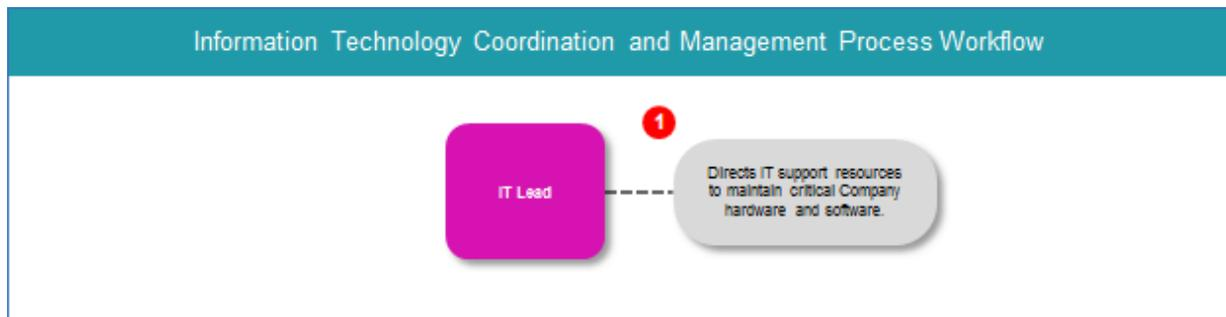

Figure 27: IT Coordination and Management Process Workflow
Information Technology (IT) support resources are available to address any issues that might arise with hardware or software that is critical to a successful emergency response. These resources are coordinated and dispatched by the IT Event Lead. The IT Event Lead may be notified of IT issues during System Level and State Level briefings and may reschedule planned IT maintenance on critical systems in anticipation of an Emergency. Refer to Figure 27, “IT Coordination and Management Process Workflow” below.